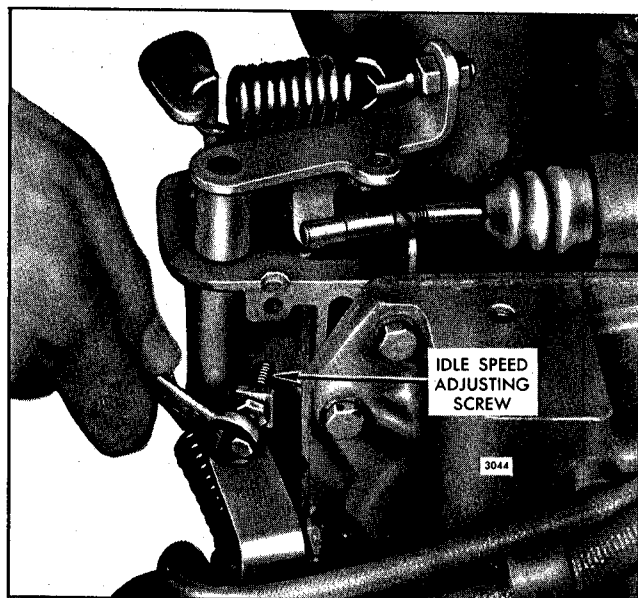

Fig. 5 - Adjusting Idle Speed
2. With the engine operating, loosen the lock nut and turn the idle speed adjusting screw (Fig. 5) in or out until the engine idles at the recommended speed. The recommended idle speed is 500 rpm for engines operating up to 2500 rpm or 550 rpm for engines operating up to 3000 rpm. However, the idle speed may vary with special engine applications.